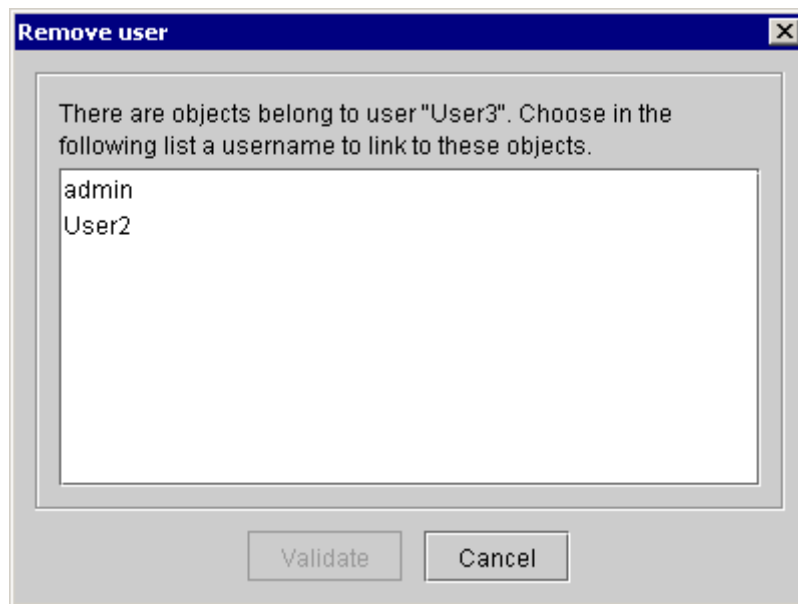

Figure 122 : New Owner
- If the removed user is the owner of object (models, systems, etc ...), the administrator must specify the user who will be the new owner of this object. During removal, a dialog box (Figure 122) asks Administrator for the new owner.